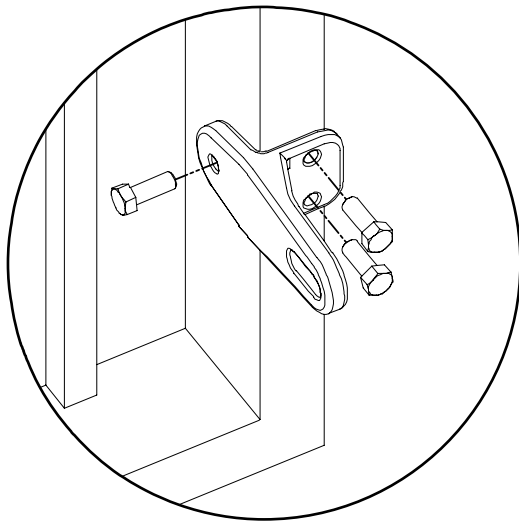
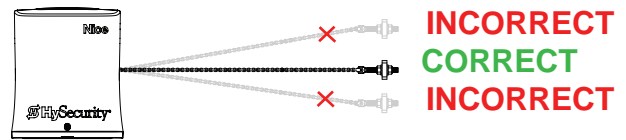
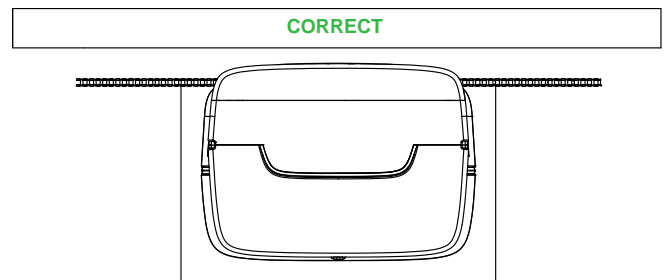

Figure 13. Attach Gate Bracket
Figure 14. Correct Bracket Height
Figure 17. Correct Distance to Gate
6. Alternatively, weld the gate brackets in place (Figure 13 and Figure 14).
12. Chain must be parallel to ground and gate (Figure 14, Figure 17, Figure 18).